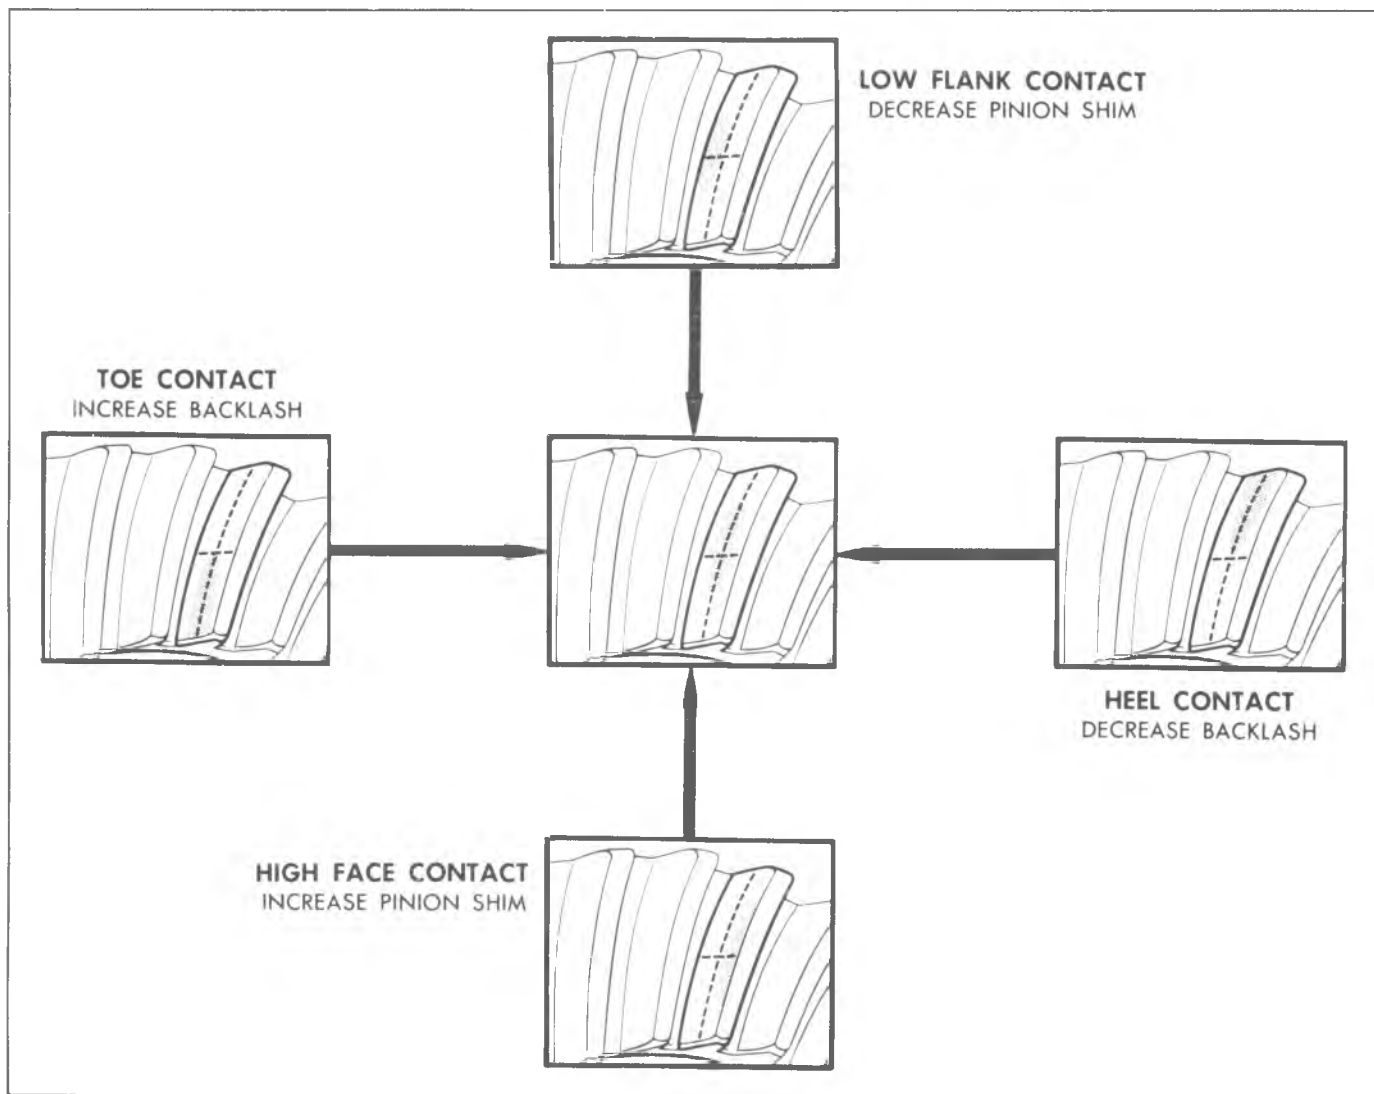

Fig. 28C—Gear Tooth Contact Pattern
5. Observe pattern on ring gear teeth and compare with figure 28C.